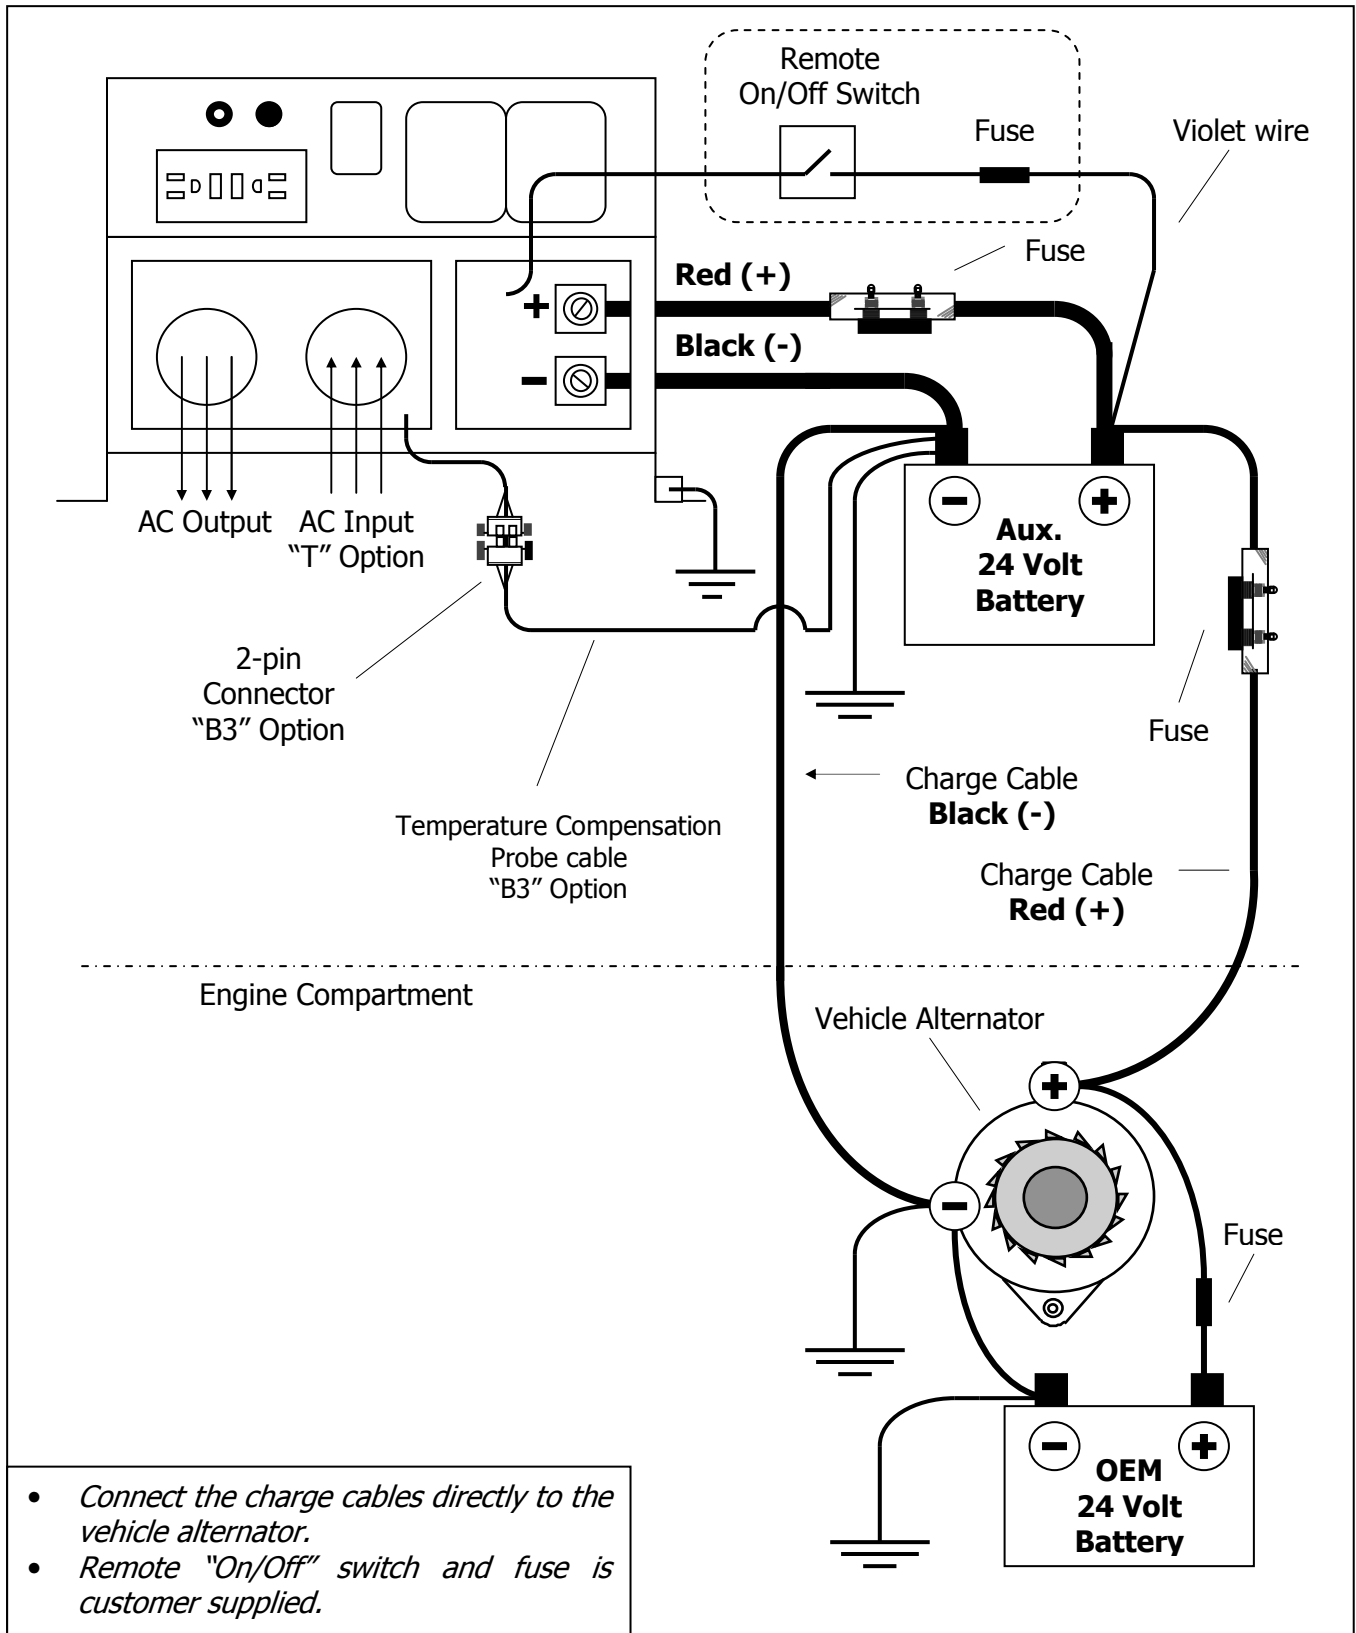

Figure 5A: DC wiring diagram
- Refer to Figure 5A: DC wiring diagram.